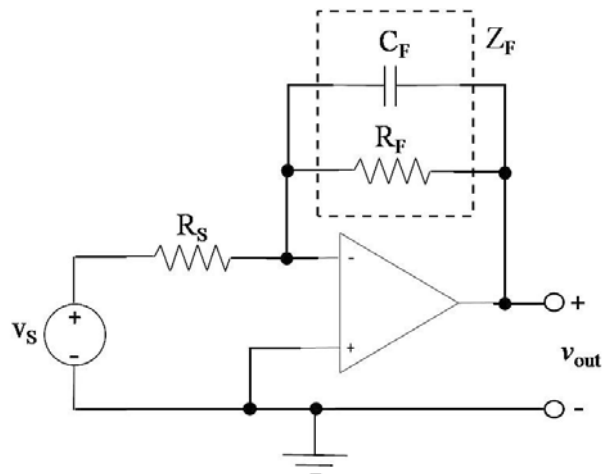

Figure 18: Active Low-Pass Filter (ALPF)
Figure 18 shows how to construct an *Active Low-Pass Filter (ALPF)* using an op-amp and a capacitor in parallel with a resistor on its negative feedback path. The gain of this circuit can be computed using (29), where